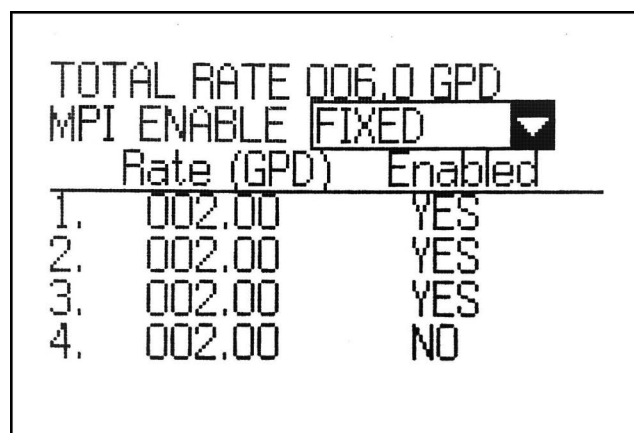

FIG. 23: Multiple Point Injection screen
6. Highlight the desired mode and press Enter. (See FIG. 23.)